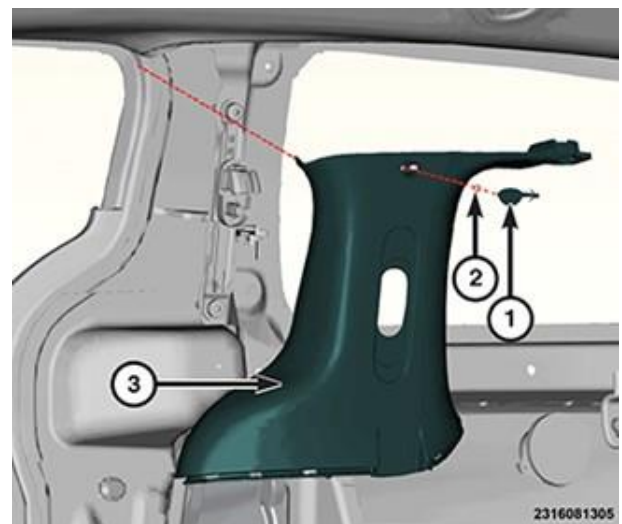

Figure 13 – C-Pillar Trim Panel
30. Using a small flat bladed tool, remove the screw cover then the screw (Figure 13).
31. Using a trim stick release the upper front edge of the quarter trim panel from the bottom of the C-pillar trim panel. (Figure 13).
32. Pull at the bottom of the C-pillar trim panel and release it from the vehicle (Figure 13).
33. It is not necessary to separate the C-pillar trim panel from the seat belt. Position the C-pillar trim panel as low as possible within the vehicle (Figure 13).